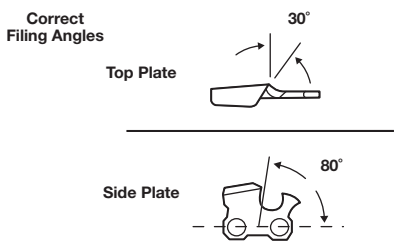

Fig. 44
- **CORRECT (30°)** – File holders are marked with guide marks to align the file properly and produce the correct top plate angle (Fig. 44).
- **CORRECT (80°)** – This is produced automatically if the correct diameter file is used in the file holder (Fig. 44).